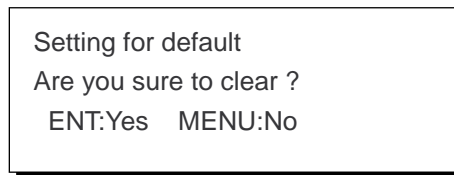

Figure 9-4
- 3) Press **►** to select Yes. The message shown in Figure 9-4 appears.